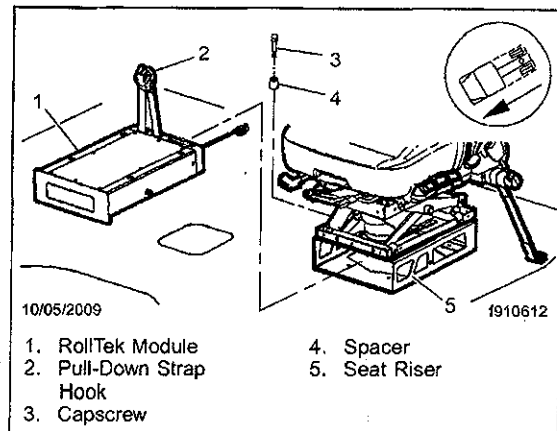

Fig. 5, RollTek Module Installation
13. Remove the four capscrews and spacers that attach the RollTek module to the seat and to the seat riser and the capscrew on each side of the riser. Slide the RollTek module forward, out of the seat riser. See Fig. 5.